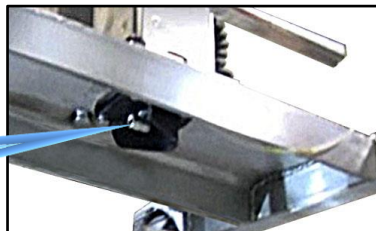

Figure 10
4. Locate the right-angle hydraulic fitting in the base of the column (Figure 10). Remove the protective cap from the fitting.